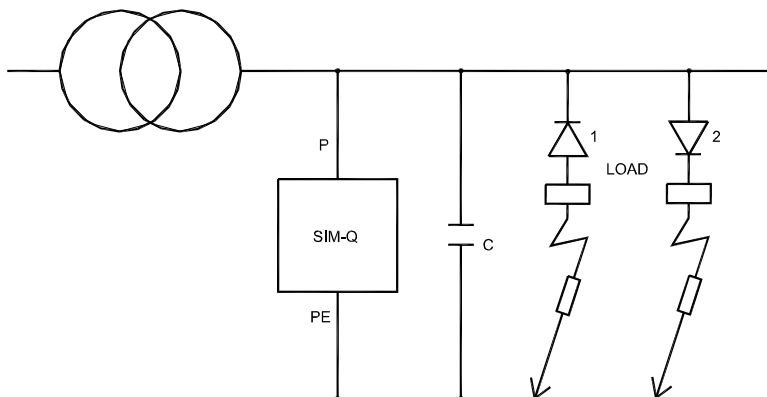

Figure 4
If a DC voltage is detected, but the alarm limit value is not yet reached, the +FAULT or the -FAULT LED will flash to indicate that there is a DC component higher than 50V DC between the power system and earth (PE), but no insulation error below the alarm limit value yet. Figure 4 below illustrates a situation where a DC can occur between the P and the PE input of the SIM-Q.